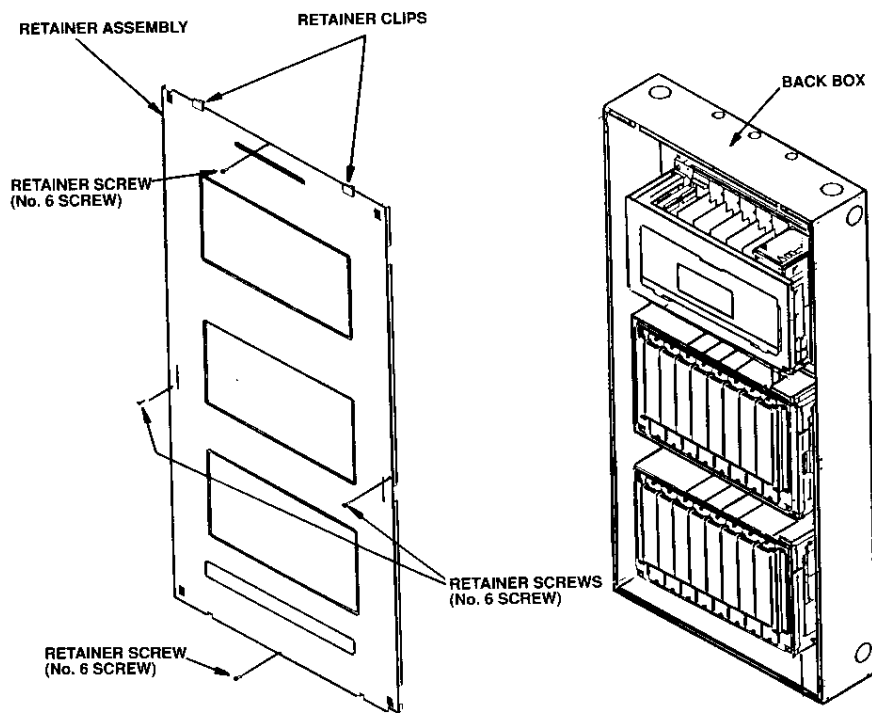

Figure 6 Installing the Retainer Panel
10. Install the retainer panel on the back box with the retainer clips at the top of the back box (See Figure 6).